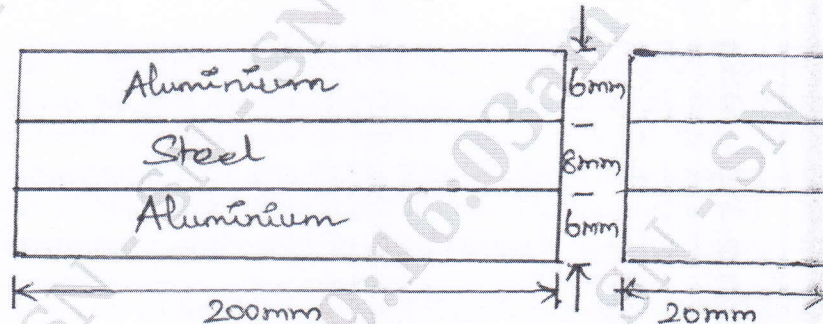

Fig.Q2(b)
- b. A flat steel bar 200 mm × 20 mm × 8 mm is placed between two aluminium bars 200 mm × 20 mm × 6 mm so as to form a composite bar as shown in Fig.Q2(b).